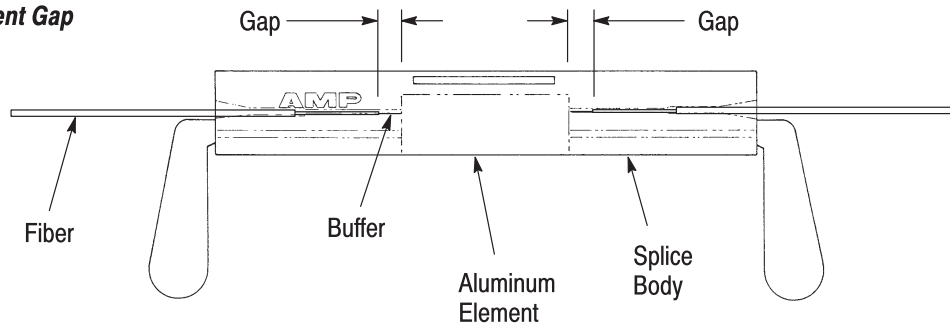

Figure 2
5. Align each fiber with its fiber entry port nearest the center of the end face. Insert each fiber slowly, ensuring the fiber travels smoothly through the channel into the aluminum element. Refer to Figure 2.
6. Slide the fibers left or right and visually check that both gaps between the buffer and the aluminum element are equal. See Figure 2.